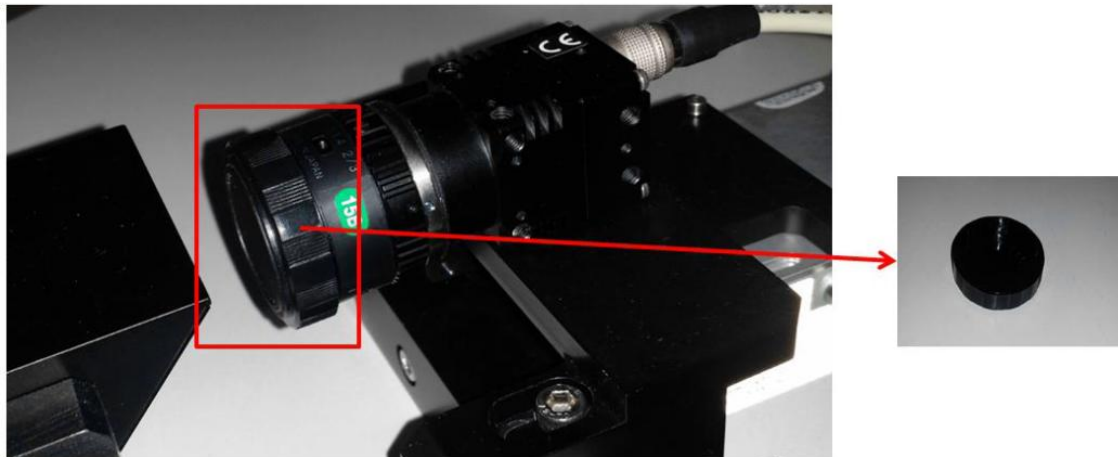

Figure 20 Camera Lens Cover Removal
- Remove the camera Lens Cover as Figure 20.